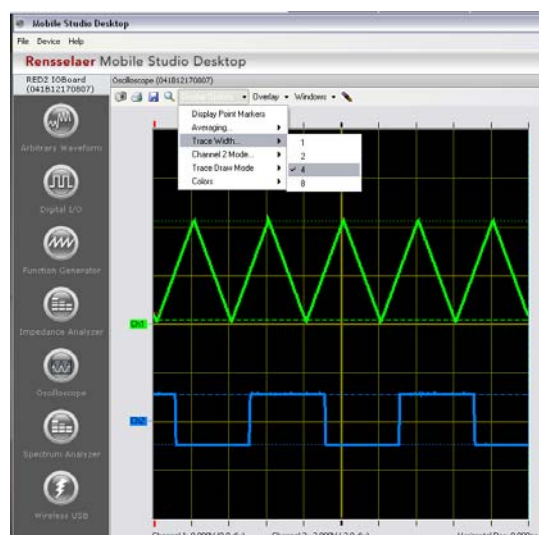

Figure 2.6: Trace Width Options
- To increase the width of the signal waveform trace, choose “Display Options → Trace Width” and choose the appropriate number option desired (1, 2, 4, or 8), shown in Figure 2.6 below.